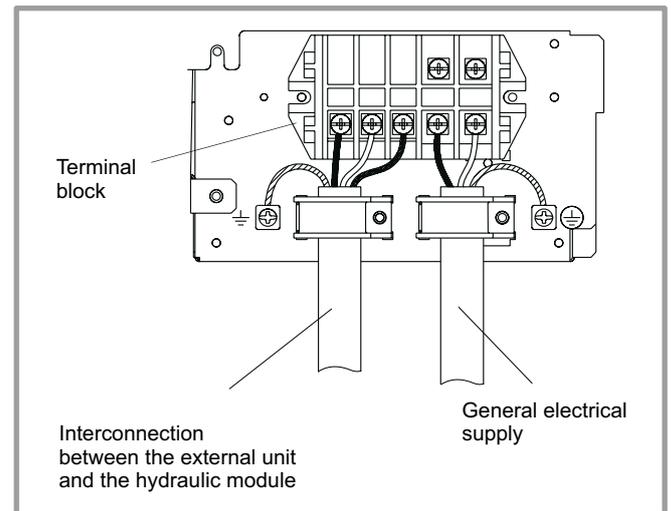

figure 24 - Connections to outside unit's terminal block
- Fill in the space where the cables enter the outdoor unit with the insulating plate (figure 24).